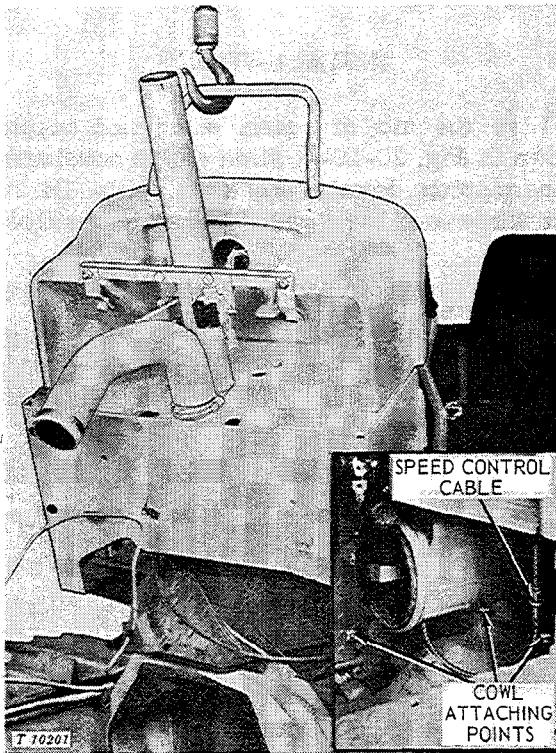

Fig. 20-10-1—Removing Cowl Support (Tractors Without Loader)
3. Remove two cap screws under cowl attaching cowl support to clutch housing (see inset in Fig. 20-10-1).
6. With the aid of a chain hoist, lift cowl with support off tractor as shown in Fig. 20-10-1.